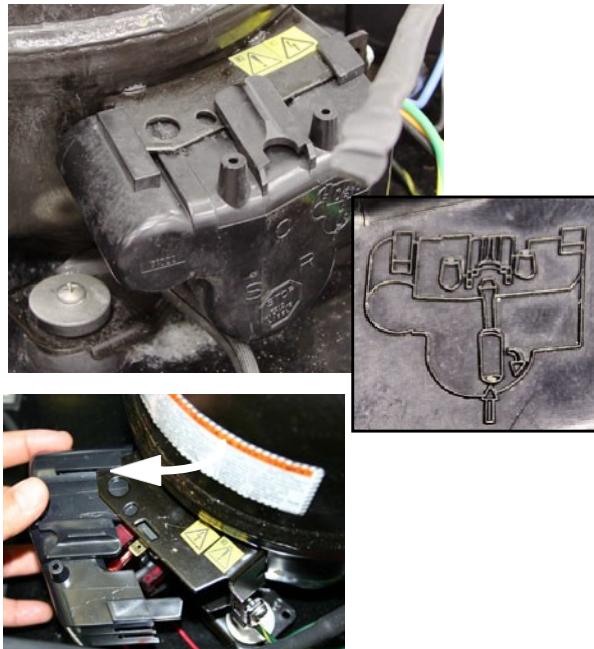

Figure 17: Access compressor overload and relay
6. Remove the terminal cover of the compressor (Figure 17).